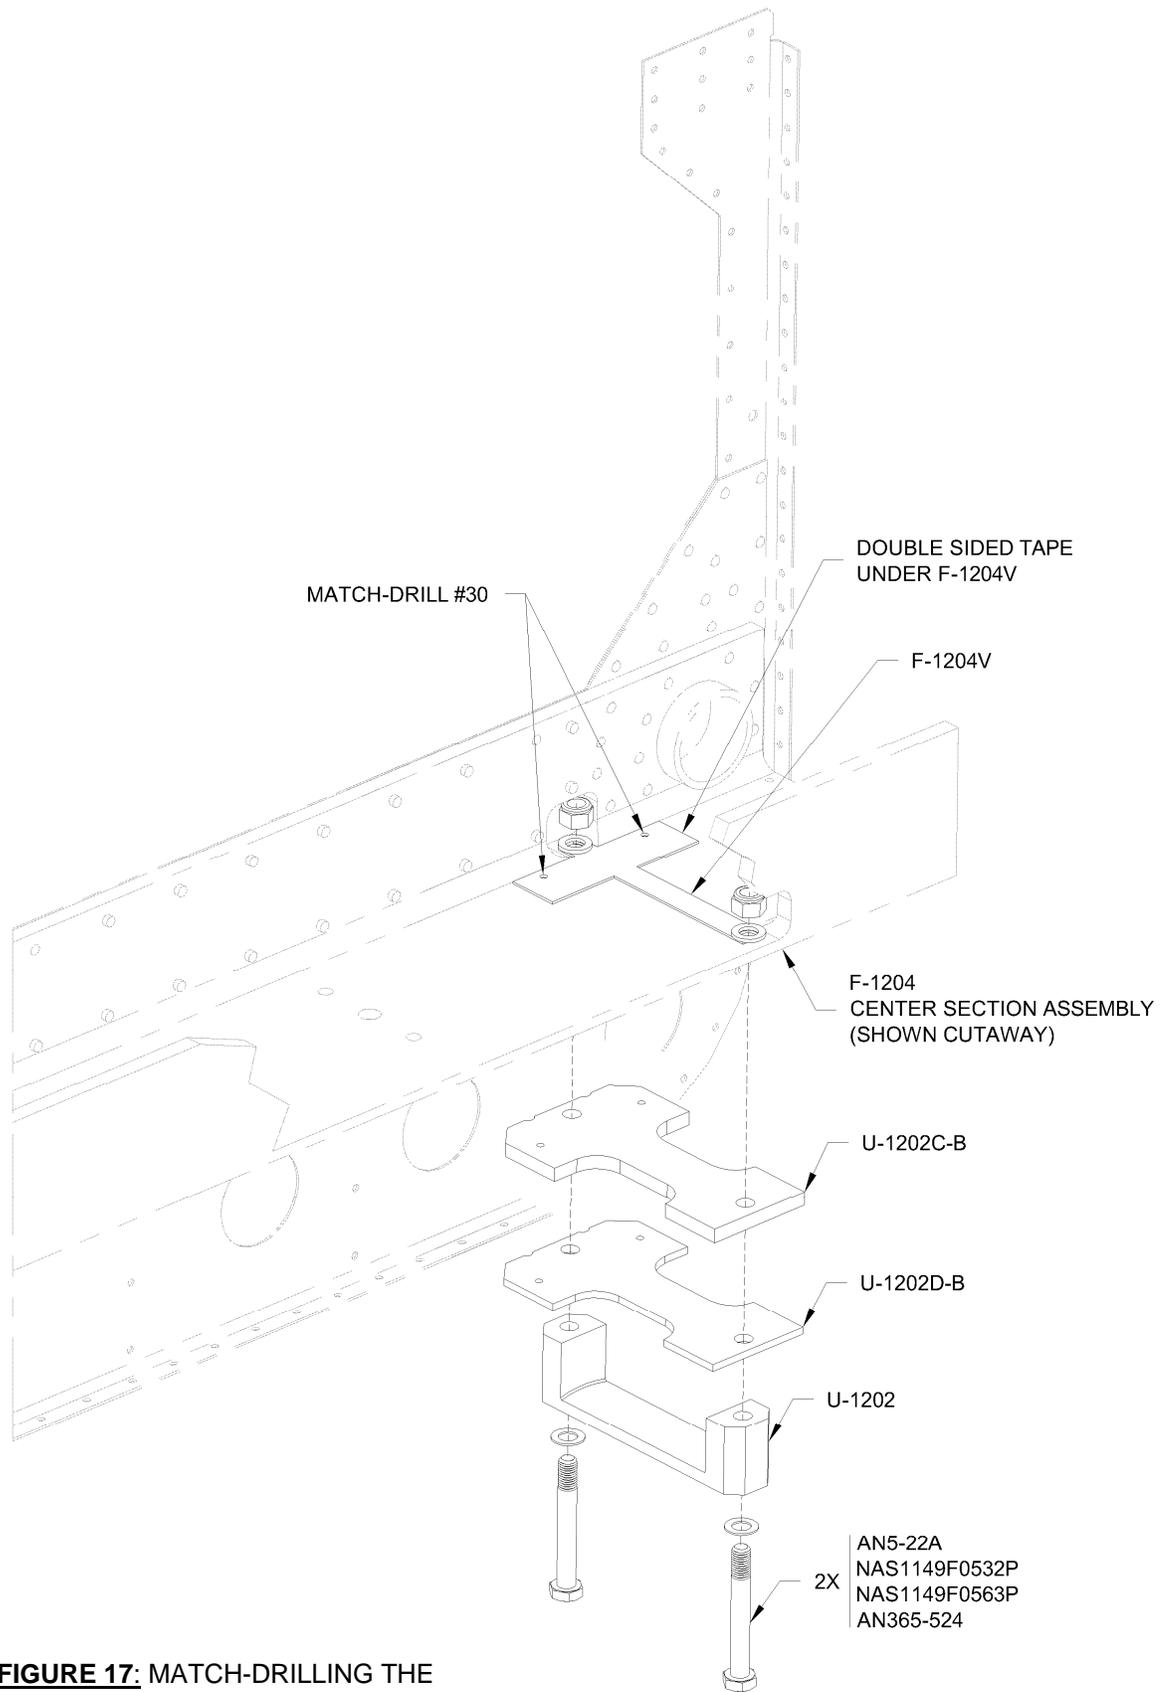

FIGURE 17: MATCH-DRILLING THE CENTER SECTION
Step 34: Deburr the edges of the U-1202C-B Outboard Doubler Plates and U-1202D-B Outboard Wear Plates (The edges do not have to be perfectly smoothed, just burrs removed that would prevent the parts from laying flush when installed). See Figure 17.
Step 35: Remove the blue vinyl plastic from both sides of the F-1204V Drill Template. Install double sided tape on the two tabbed areas of the template. See Figure 17.
removing the main gear. Use washers under the head of the bolt as required to pull the assembly up tight. See Figure 17.
Step 37: Match-Drill #30, the two .125 holes called out in Figure 17, through all parts using the template as a drill guide. Use the reflection of the drill bit in the template to check that the drill bit is perpendicular to the surface of the template.